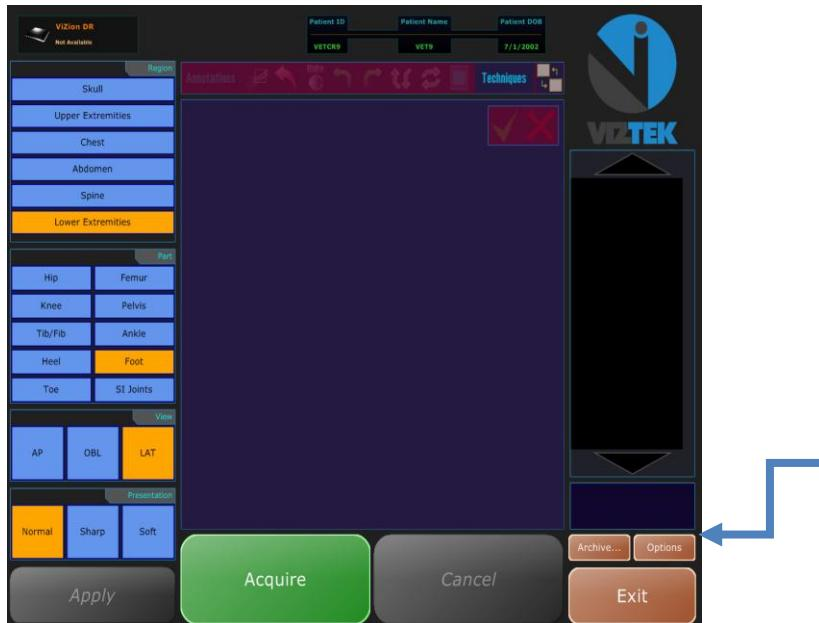

Figure 20: Acquisition Interface
1. Once the Acquisition Interface is activated select Options Figure 20